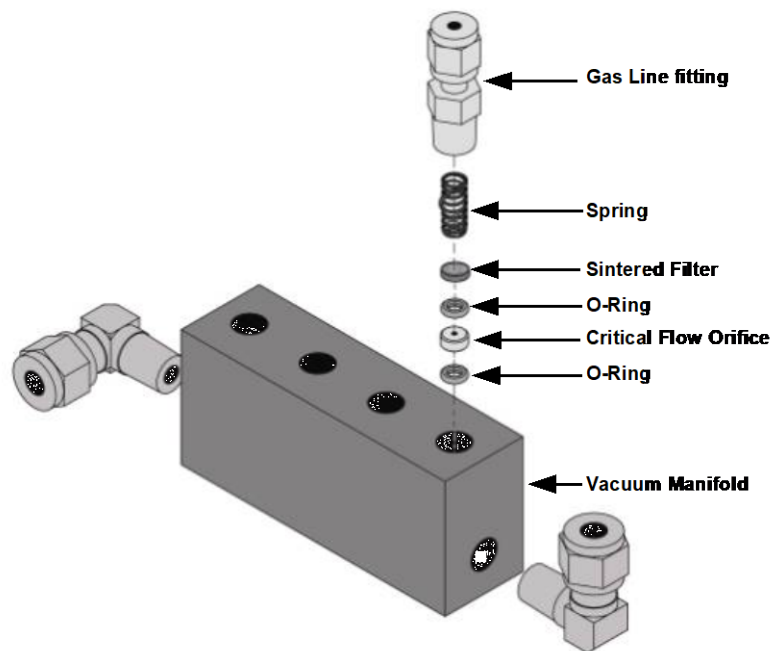

Figure 10-2: Critical Flow Orifice Assembly
2. Locate the critical flow orifice on the pressure sensor assembly (called out in Figure 10-2).
9. Re-assemble the parts as shown in Figure 10-2 using a new filter and o-rings.